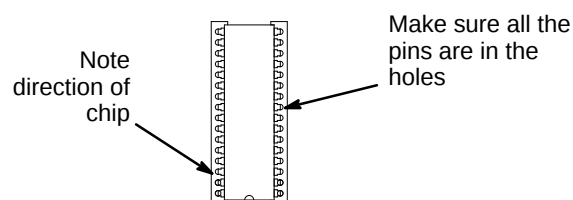

Fig. 13
5. Install the new software chip with the last row of pins in the last row of holes. Make sure the chip is facing the correct direction and all the pins are in the holes. See Fig 13.